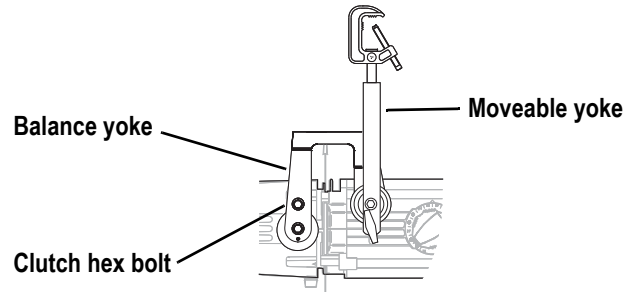

Figure 13
- Step 2: Adjust the balance yoke so it is perpendicular to the fixture as shown in Figure 13. If front of the fixture has several accessories attached, you may need to tilt the balance yoke towards the front of the fixture to adjust the balance.